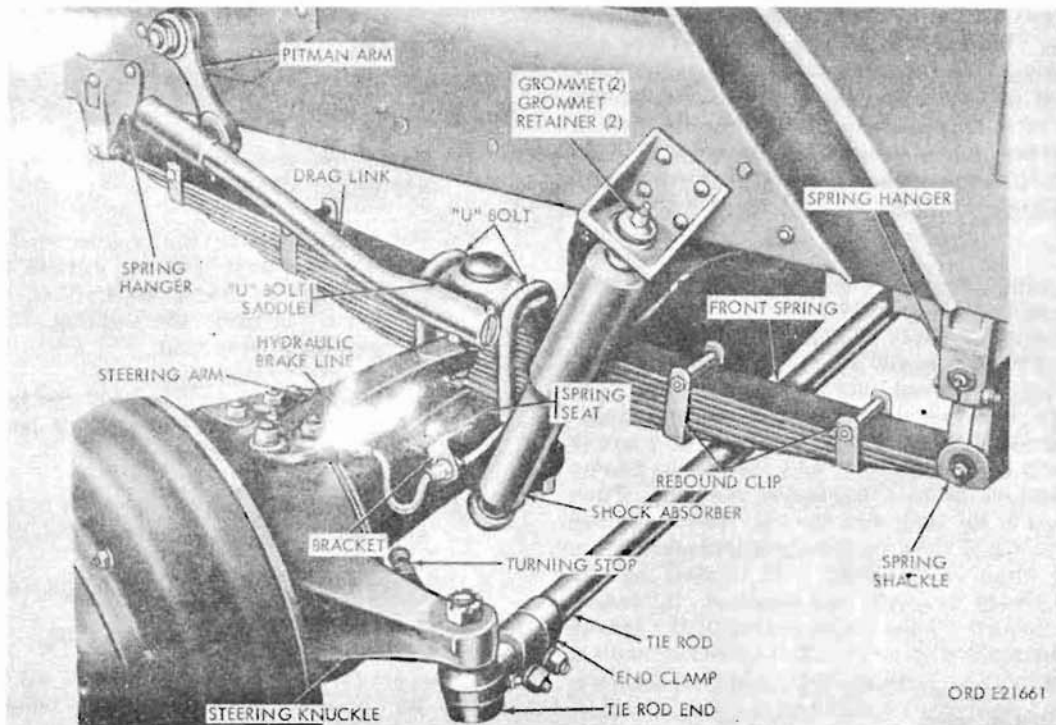

Figure 217. Front spring and steering gear components
a. Front Springs (Fig. 217). The front springs are semielliptic type, assembled with a bolt through the center of the leaves, and the leaves alined with four rebound clips. The springs are mounted on the spring seat resting on the axle, and each is secured by two U-bolts, seated on the U-bolt saddle, and passing through the clamp plate under the axle. The front spring is pivoted in a spring hanger at the front end and shackled to the spring hanger at the rear end. Trucks mounted on M46 series chassis, and trucks M47, M59, M60 and M108 have heavy-duty front springs.
e. Shock Absorbers (Fig. 217). The shock absorbers are hydraulic, double-acting, cylindrical-type and are installed at the front of the truck.
189. Front Springs (Fig. 217)